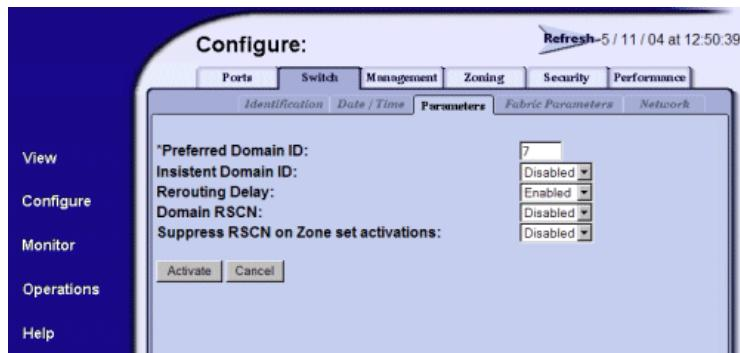

Figure 41: Switch page—Parameters tab
3. Choose **Switch >Parameters** to display the **Operating Parameters** tab (Figure 41).